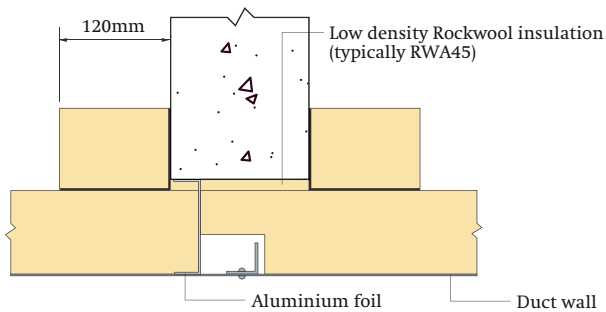

Figure 8 Steel angle frame support to duct at penetration mid point
- a a 30 × 30 × 2mm mild steel angle frame fixed to the duct at the penetration mid point. Steel rivets should be used at 300mm maximum centres (Figure 8),